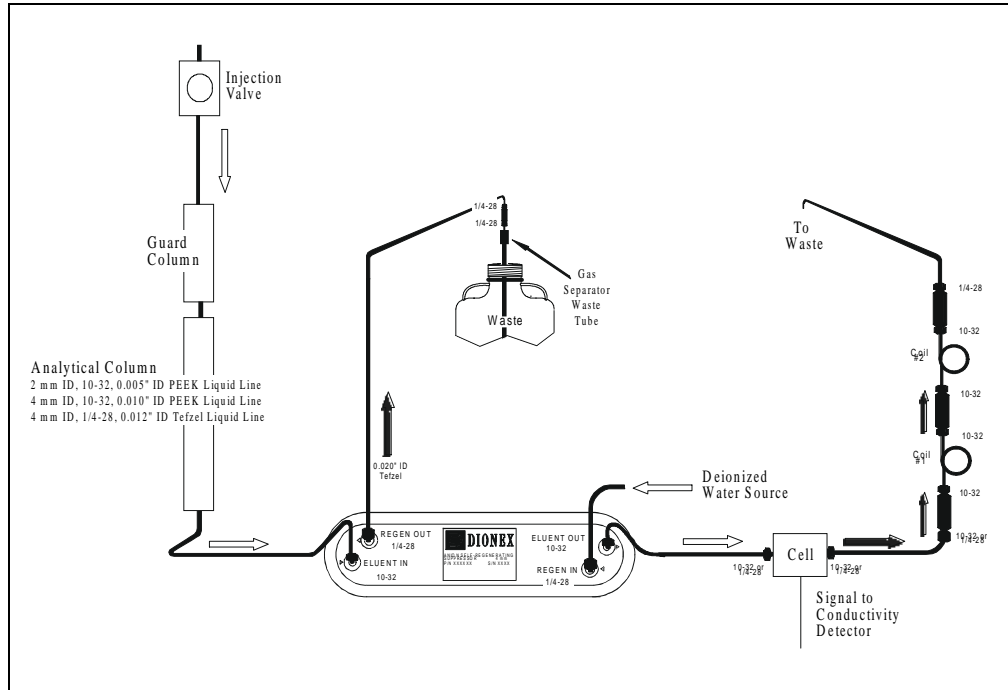

Figure B-3. AutoSuppression Mode, External Regenerant
- AutoSuppression with External Regenerant mode (SRS required), shown in Figure B-3. Also plumb the system in this way for the AutoSuppression Chemical Suppressor and MMS Pressurized Regen System configurations.